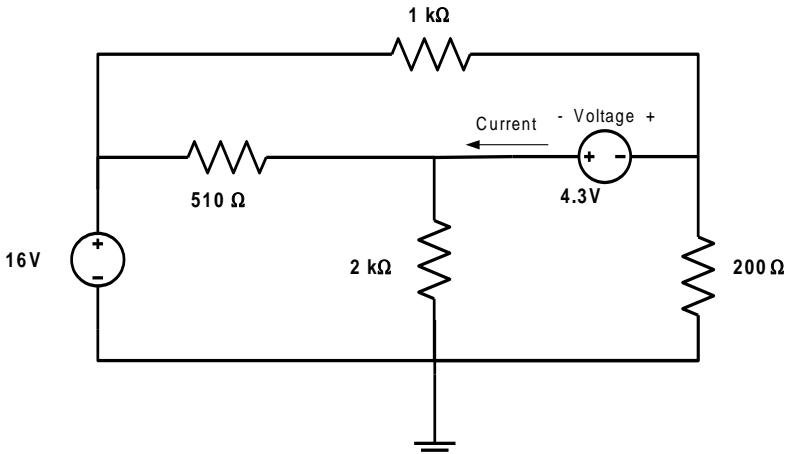
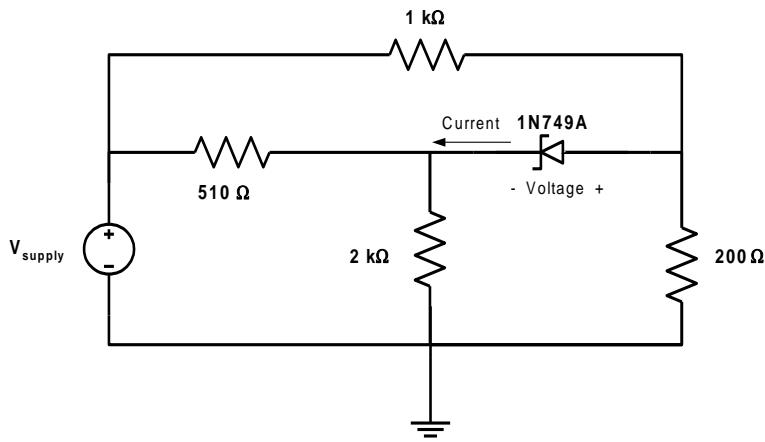

Figure 8: Third Simulation Circuit
Figure 9: Third Circuit Using a Zener Diode
The last circuit you will simulate is shown below in Figure 8. As discussed in the introduction, we will briefly introduce a Zener diode which can act similar to a voltage source under the right conditions. The Zener diode is a non-linear device which means its current-voltage characteristic curve cannot be modeled as a straight line as demonstrated in. The Zener diode which we will use in this simulation produces approximately 4.3 V under the right conditions.
30. Build and wire the circuit shown in Figure 9. Include a voltmeter to measure the voltage across the 4.3 V source with the reference shown and an ammeter to measure the current flowing right to left through the 4.3 V source. (Note: for easy wiring, you can right-click on the meters in your circuit, and flip them horizontally.) Please pay special attention to the direction of the positive and negative terminals of the voltmeter and ammeter as you can see from the labeling (current arrow and + and – sign) in Fig. 8 and Fig. 9. You can see that the voltmeter terminals are in the opposite direction of the battery terminals. And for the ammeter, place the positive terminal so that the current arrow is going into the positive terminal (+ on the right side, - on the left).
33. Replace the 4.3 V source with the Zener diode (model number 1N749A) as shown in Figure 8. Repeat Step 31 with supply voltages (V_{supply}) of between ± 20 V in steps of 4 V (i.e., -20V, -16 V, -12 V, etc.) and place your results in Table 4 in the lab report and in your lab note section.